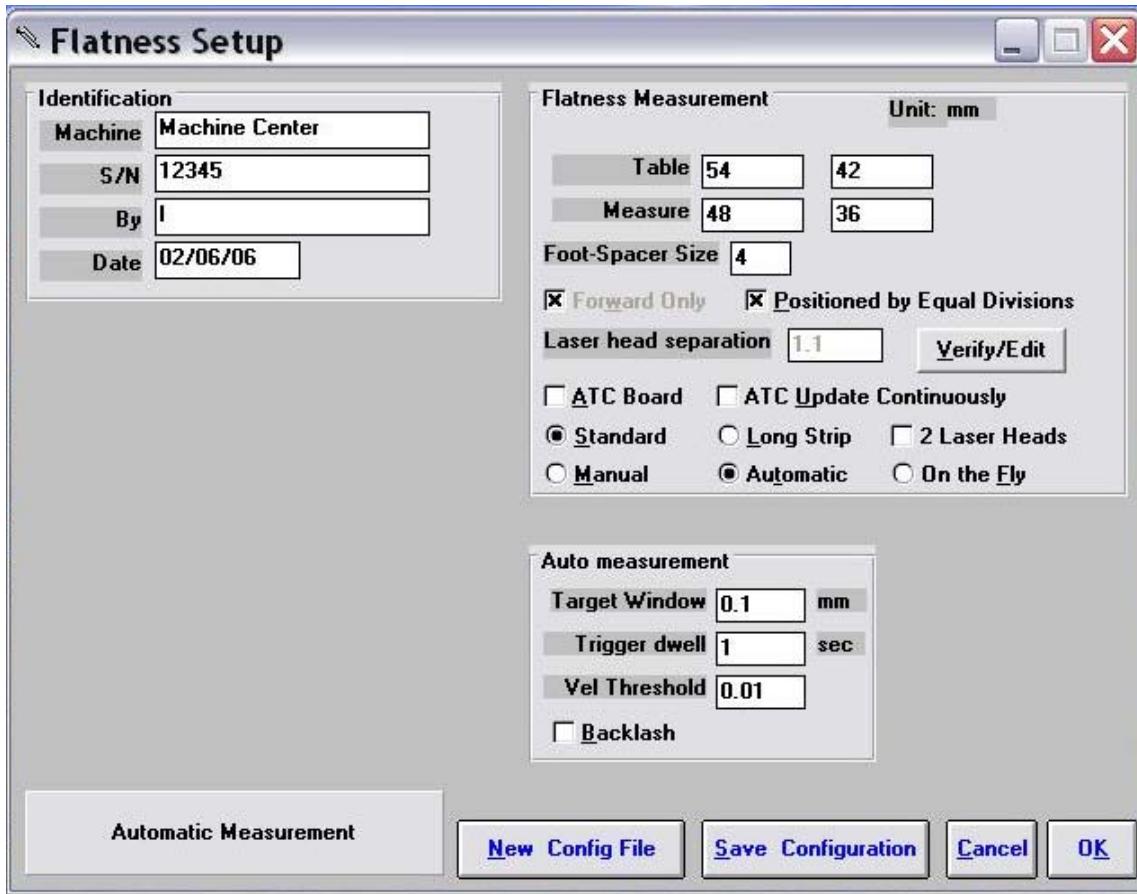

Fig. 6-2 Flatness measurement Setup Screen
6.2 Flatness Measurement Setup Screen (Fig. 6-2)
Flatness Measurement Setup Screen (Fig. 6-2):